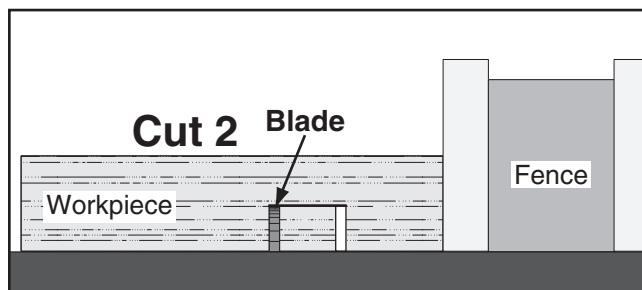

Figure 61. Second cut for a single blade dado.
7. Repeat the cutting operation on the other side of the dado channel, as shown in **Figure 61**.